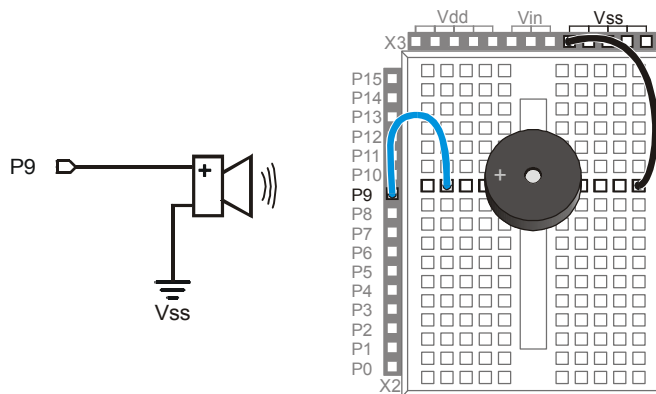

Figure 8-2
- √ Build the circuit shown in Figure 8-2.